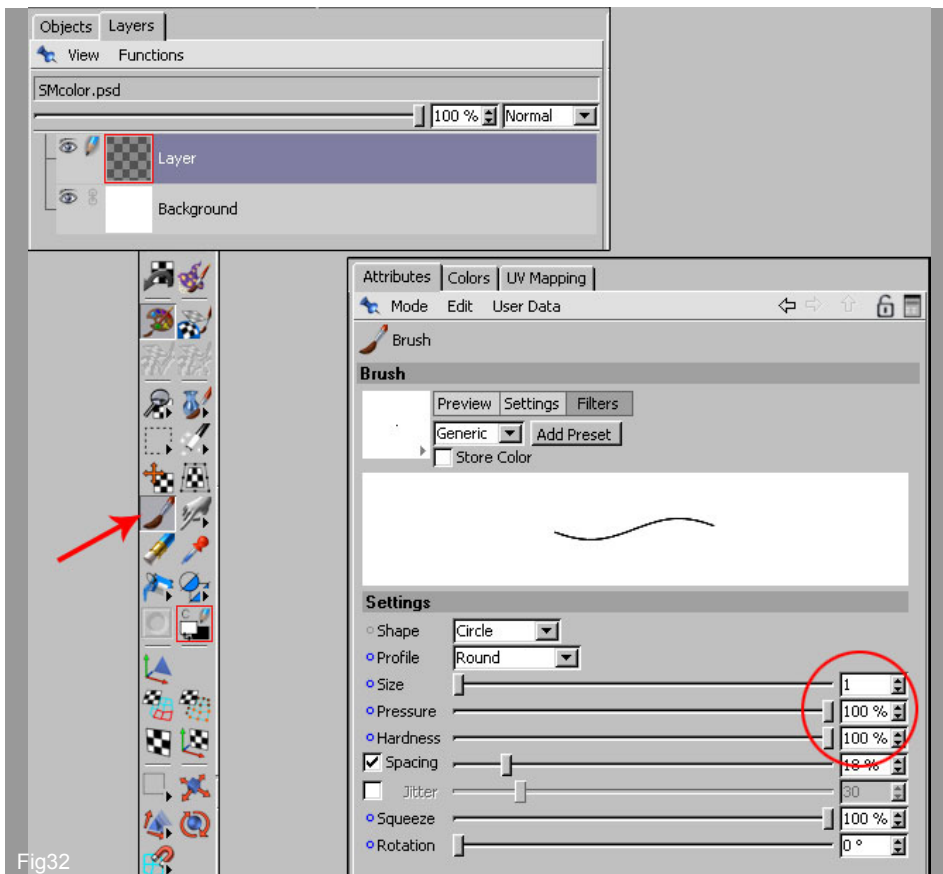

Fig32
32. Last thing that remain to do is to get the wireframe templates that will act as your guide. Fit all UV's with the canvas of your texture scaling and rotating the various meshes. Try to assign more space for the important pieces. Once you done add a new layer as seen on the top of Fig32.